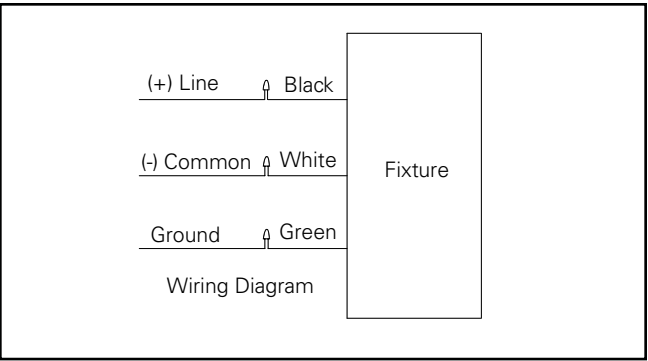

Figure 3.
- 2. Loosen but do not remove (2) center bolts and remove (1) set screw.
- 5. Refer to wiring diagrams for power connection. (Figure 3.)
- 2. Remove (2) cover plate screws and cover plate with #2 Philips screwdriver.
- 6. Loosen (3) set screws and slide the slipfitter onto pole or mounting bracket.
- 7. Position luminaire into the desired direction; and tighten (3) set screws to 7 ft-lbs.
- 9. Refer to the wiring diagram for power connection. (Figure 3.)